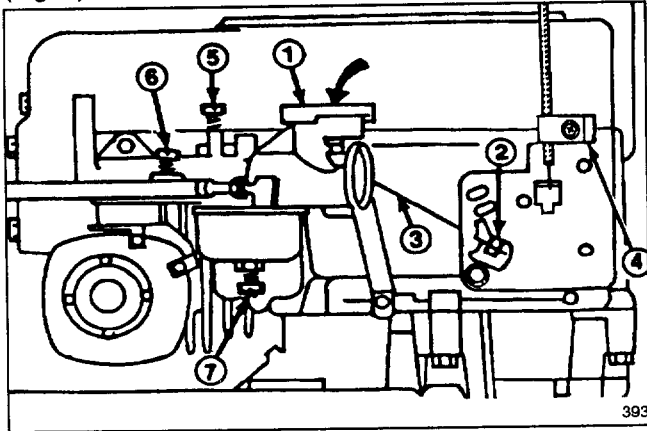

Figure 14
2. Move throttle control lever to CHOKE position and check the position of the choke butterfly; it should be fully closed (Fig. 14).
3. Move throttle control lever to FAST position. The butterfly should be in the fully open position (Fig. 14).
2. Loosen the throttle cable clamp screw (Fig. 14) and move the control cable casing and wire until the throttle lever touches choke link. Check for proper choke operation.
1. Needle Valve (Fig. 14) — Close valve by gently rotating it clockwise.
2. Rotate — open — the needle valve 2 turns counterclockwise (Fig. 14).
4. Rotate needle valve (Fig. 14) clockwise, 1/8 turn at a time, until engine starts to lose speed. Let engine react to each 1/8 turn setting.
5. Rotate needle valve (Fig. 14) counterclockwise — out — 1/8 turn at a time, until engine first runs rough. Let engine react to each 1/8 turn setting.
6. Rotate needle valve (Fig. 14) clockwise — in — very slowly until engine starts to run smoothly. This setting, under no load, may be slightly rich; however, the slightly rich setting will assure proper operation when engine is under load.